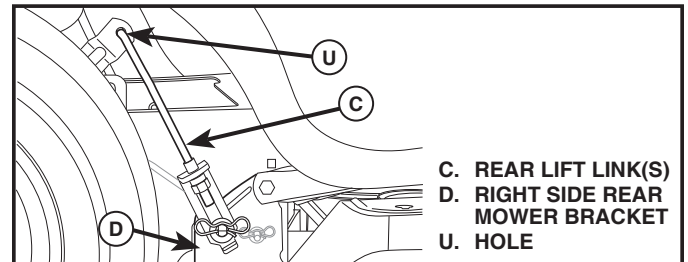

Fig. 13
7. ATTACH REAR LIFT LINKS (C) (See Fig. 13)
- Insert rod end of rear lift link (C) into hole (U) in tractor lift shaft suspension arm and pivot link down to mower.
- Lift rear corner of mower and position slot in link assembly over pin on rear mower bracket (D) and secure with large washer and large retainer spring.